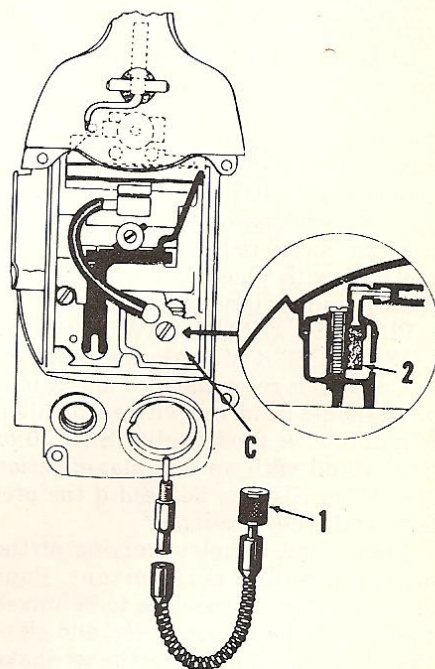

Fig. PR1-3—The first fuel filter (1) is located in the tank. Be sure that gasket located under cover (C) doesn't leak, when servicing the second filter (2).
first filter (1—Fig. PR1-3) is located in the fuel tank, the second filter (2) is located under a small cover in the air box and the third filter (17—Fig. PR1-1 or PR1-2) is located on the carburetor. Air leakage under covers (19—Fig. PR1-1 or PR1-2) and (C—Fig. PR1-3) can prevent fuel from reaching the carburetor.